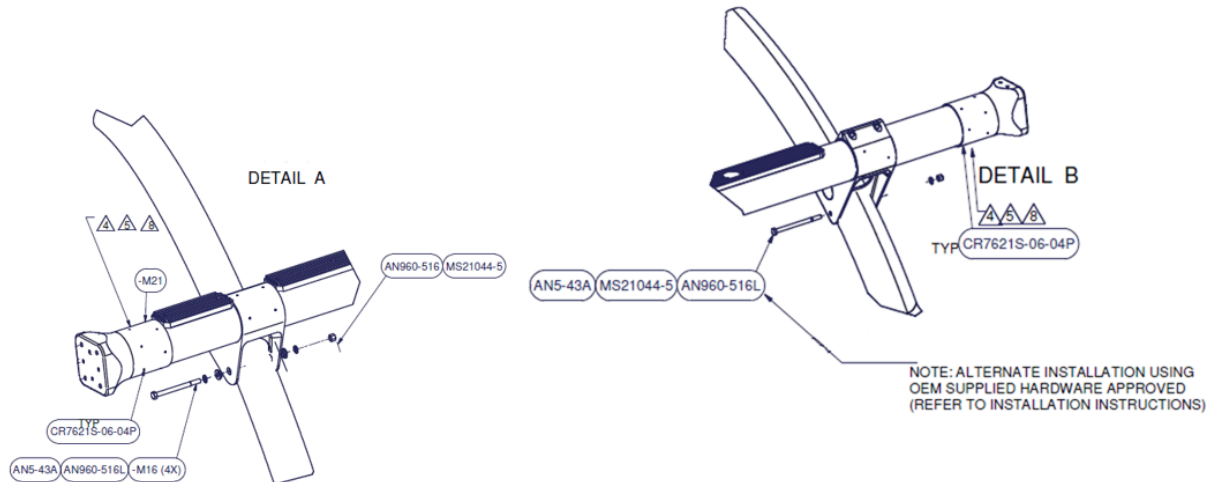

Figure 5 – AFM-SM117-1 Hardware Installation Views (C-2 Model)
- Align forward and aft landing gear skid fittings with holes on landing gear cross tubes as shown in Figure 5.